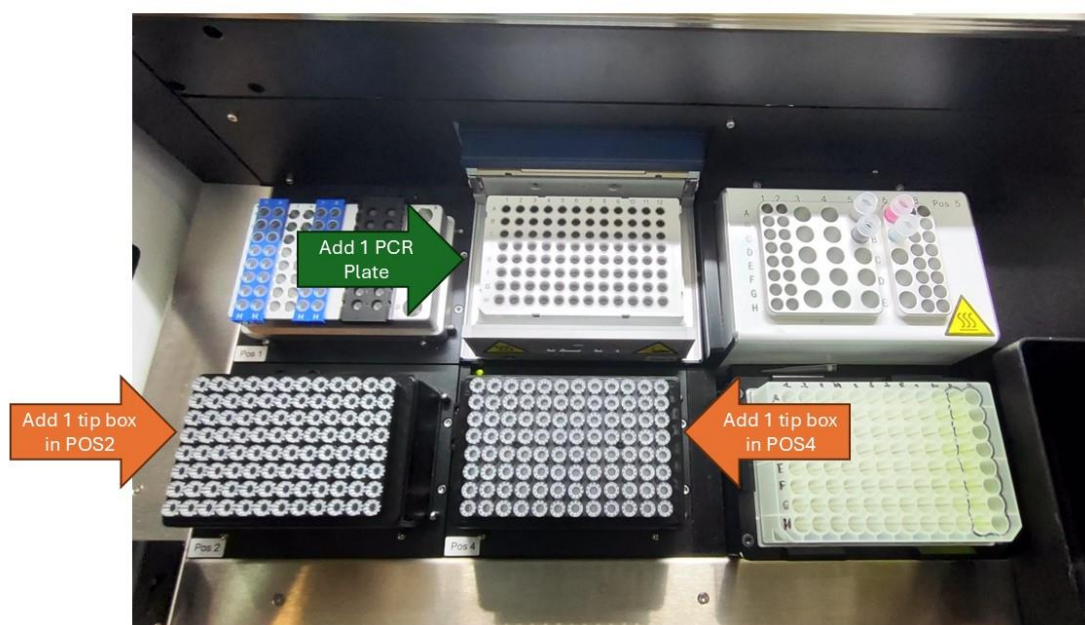
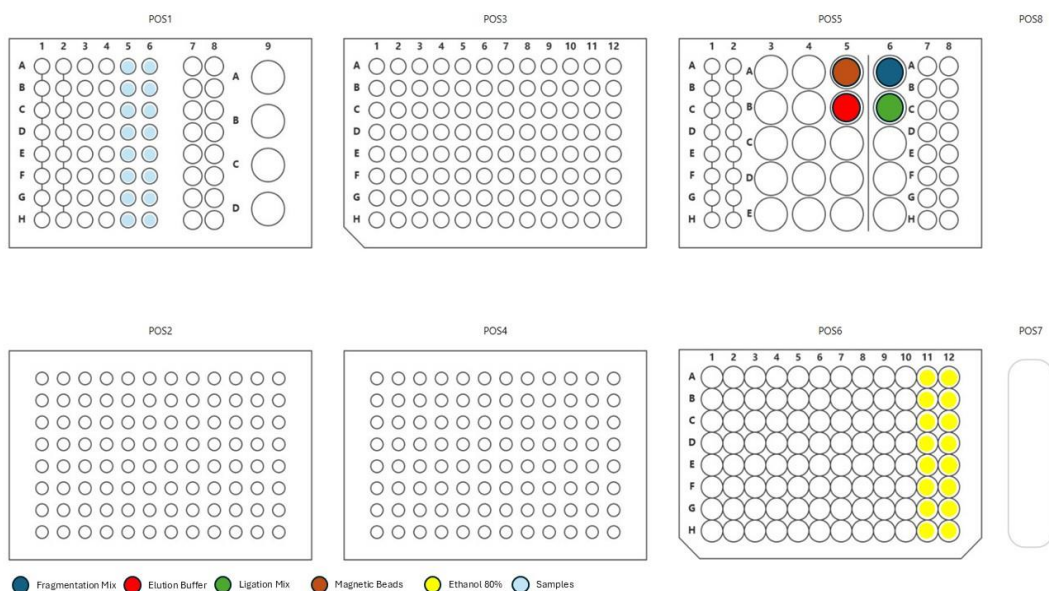

Figure 3-12. Adapter-Ligated Libraries protocol deck example.
Figure 3-14. Adapter-Ligated Libraries deck layout
- 8) The Figure 3-12 or 3-13 (Adapter-Ligated Libraries protocol or Library amplification respectively) will appear at **Operation Deck**. The samples, reagents, and consumables prepared will be placed and confirmed as shown in the Figure 3-14 or 3-15 (Adapter-Ligated Libraries protocol or Library amplification respectively),